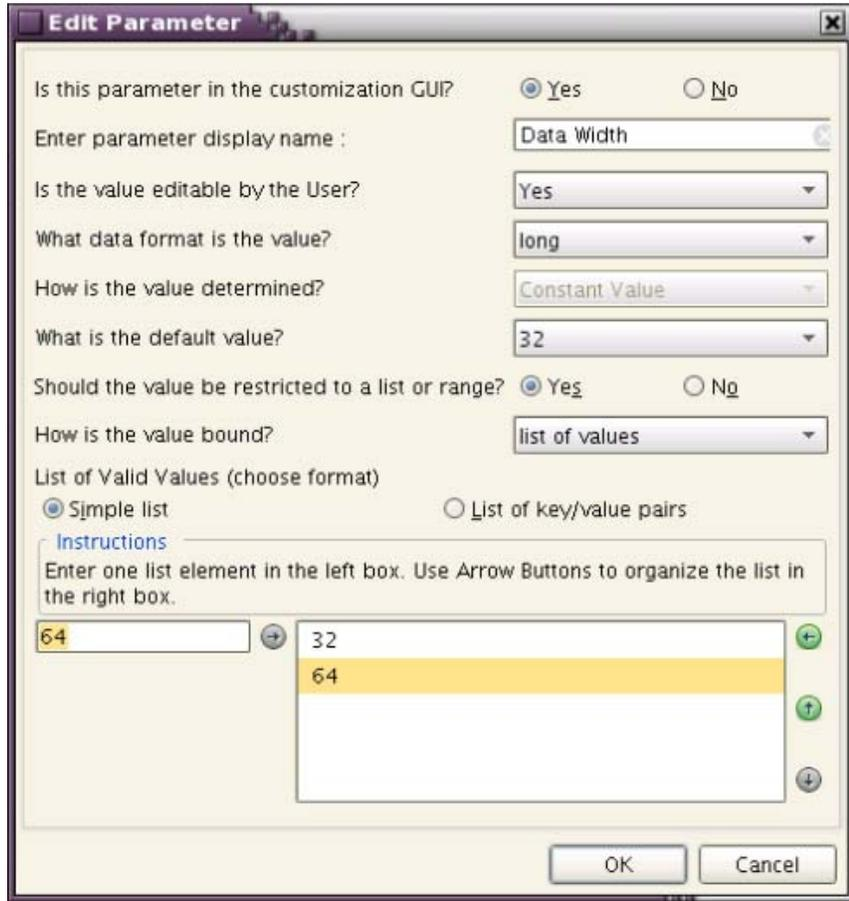

Figure 23: Edit Parameter Window for AXI4 Slave
3. Update the following fields in the Edit Parameter window (Figure 23) and click **OK**. These fields update the GUI. The AXI data width parameter will be limited to two choices.